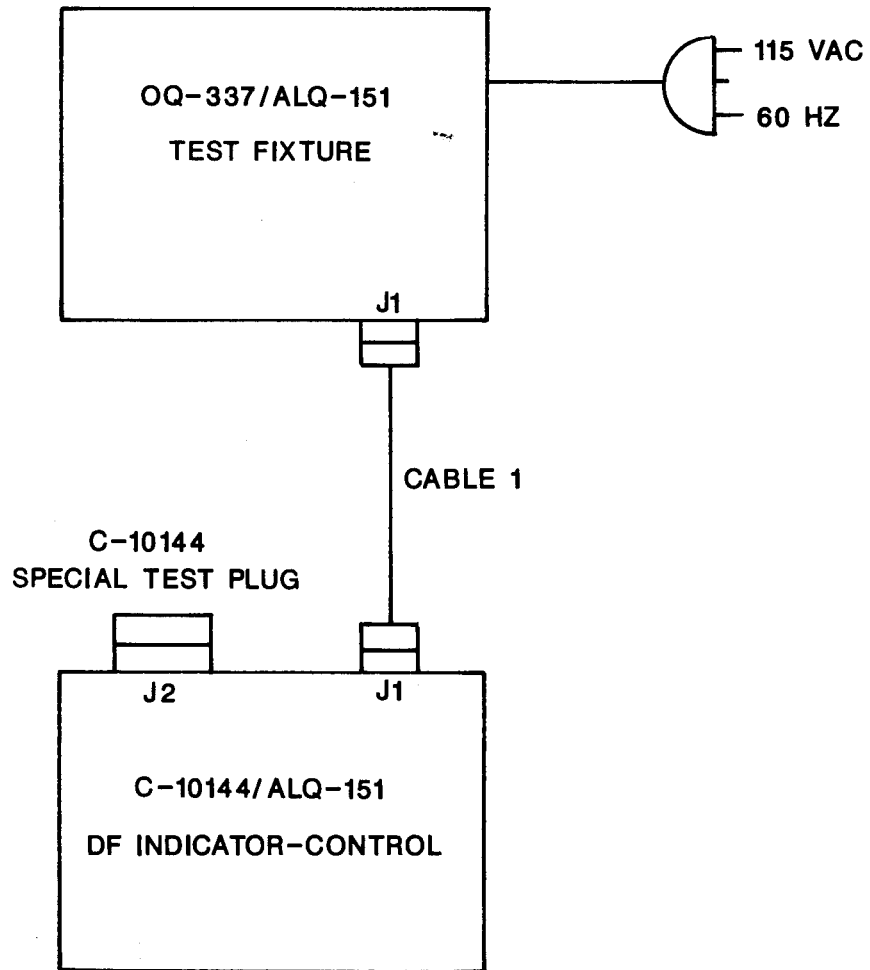
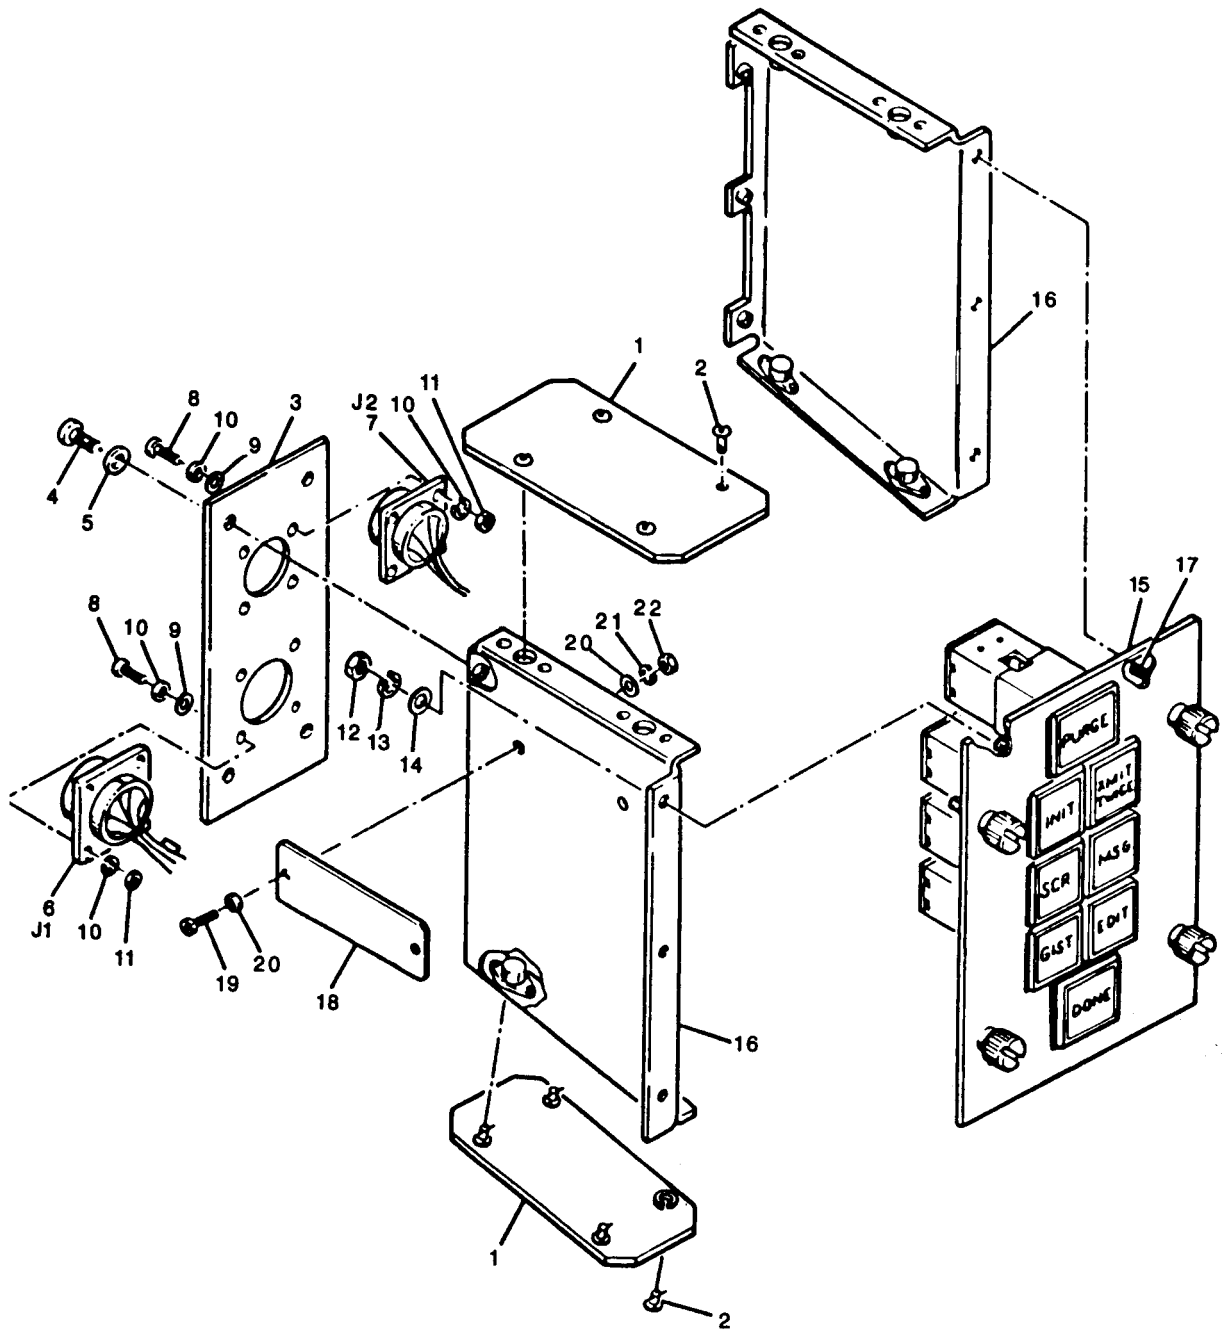

Figure 5-1. DF Control-Indicator Test Setup Diagram
Figure 5-2. DF Control-Indicator Component Location Diagram
This section contains troubleshooting procedures for the DF control-indicator at general support level of maintenance. Also included are a test setup diagram (figure 5-1) and instructions required to prepare the unit for troubleshooting. Troubleshooting procedures contained in this section provided an aid in locating faults. To support troubleshooting, functional descriptions of the circuits in the unit are described in chapter 3. A schematic diagram is depicted in figure FO-1 and component location is provided in figure 5-2.
To prepare the DF control-indicator for troubleshooting, refer to figure 5-1 and proceed as follows:
This section contains inspection, cleaning, removal, replacement, and repair procedures authorized by the maintenance allocation chart in appendix B for the general support maintenance level. Removal procedures are presented in a logical sequence to completely disassemble the unit. Disassemble the unit only to the extent necessary to perform a particular test or repair. Refer to figure 5-2 for component location. Once the unit is disassembled to the extent required, repair the unit in accordance with paragraph 5-11 and replace all assemblies previously removed. With the repaired unit completely assembled, verify proper operation by performing the tests in section V.
a. Top and Bottom Cover Removal and Replacement. To remove top or bottom cover (1) (figure 5-2) of the unit, loosen the four fasteners (2) securing covers and remove covers. To replace covers, position the covers over the top or bottom of the unit and secure to the unit with the four fasteners.
b. Rear Panel Removal and Replacement. To remove the rear panels (3) from the unit, proceed as follows:
- (1) Remove six screws (4) and washers (5) that secure rear panel to unit.
- (2) Remove from each, four screws (8), flat washers (9), lockwashers (10) and nuts (11) that secure connectors ,J1 and J2 (6 and 7), then remove rear panel.
- (3) To replace rear panel (3), secure connectors J1 and J2 to panel with four screws (8), flat washers (9), lockwashers (10) and nuts (11), then secure rear panel to unit with six screws (4) and washers (5) .